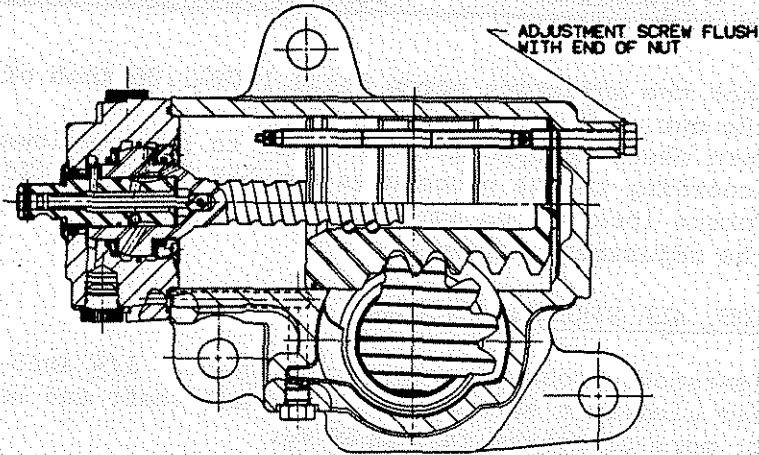

FIG 4. RESET POPPET SLEEVE ON TOP SIDE OF PISTON
- f. Continue to rotate until torque at the steering wheel exceeds 475 in.-lb. (Fig. 4).